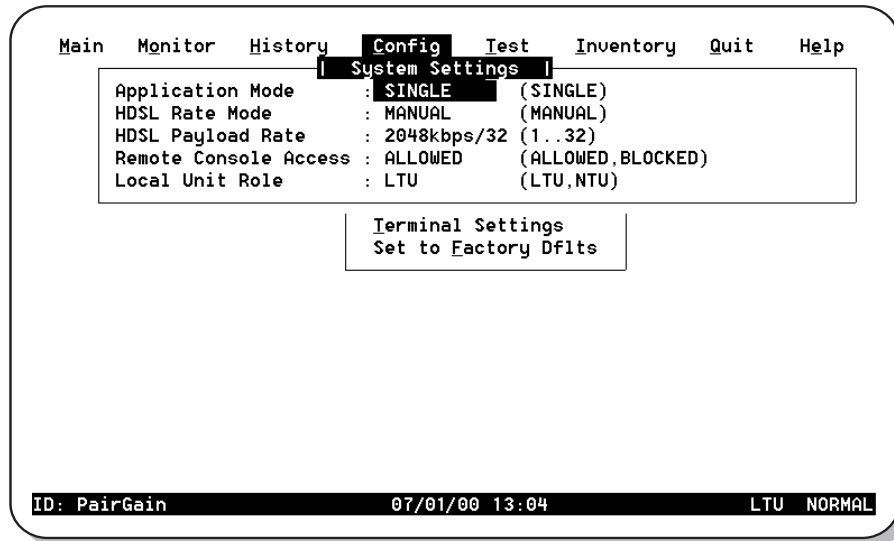

Figure 21. Config System Settings Menu
- 1 Type **S** at the *Config* drop-down menu to display the *Config System Settings* menu. Figure 21 shows the *Config System Settings* menu for the UTU-701C and ETU-751C.
The Data Rate/# of TSs and Beginning TS parameters in the Config LTU and NTU Interface menus are read-only displays. The Data Rate/# of TSs value is set in the Config System Settings menu as the “HDSL Payload Rate” (See Figure 21 on page 37). The Beginning TS value is 0 with 32 time slots selected (unstructured mode) and 1 when less than 32 time slots are selected (structured mode).